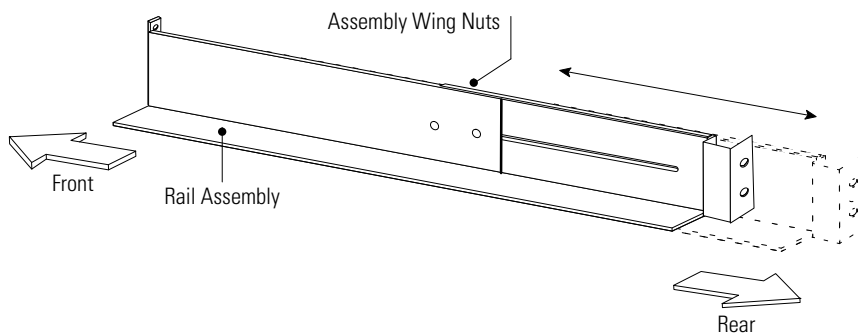

Figure 2. Adjusting the Rail Depth
1. Loosen the assembly wing nuts on both rail assemblies and adjust the rail size for the depth of your rack (see Figure 2).